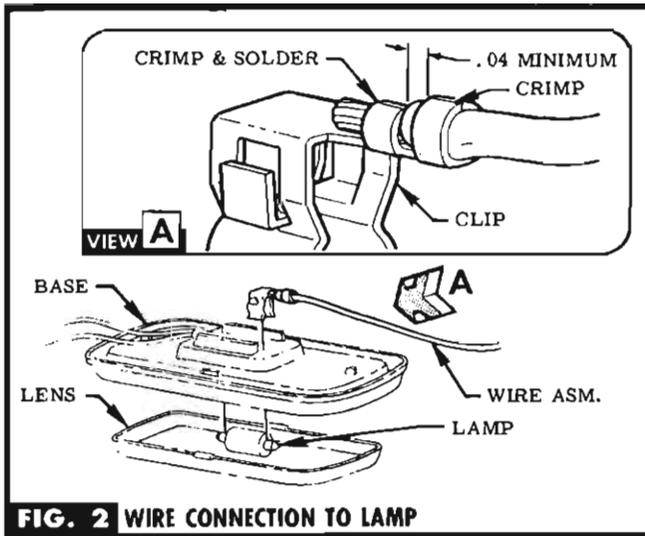

FIG. 2 WIRE CONNECTION TO LAMP
STEP 4 CRIMP & SOLDER BARE END OF WIRE TO CLIP. REMOVE LENS FROM LAMP ASM. INSERT CLIP INTO BASE. INSERT LAMP INTO CLIPS. REPLACE LENS. SEE FIG. 2 & VIEW A.